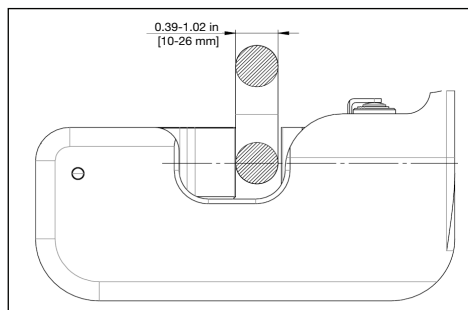
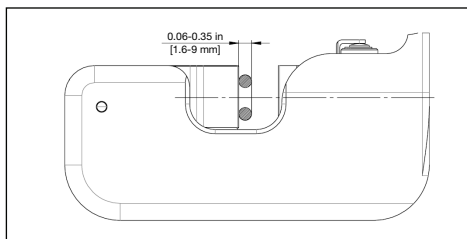

Figure 11, Position for 0.39 - 1.02 in [10 - 26 mm] diameter link wire
Figure 12, Position for 0.06-0.35 in [1.6 - 9 mm] diameter link wire
The cut of a chain link must be done in two shots for link wire dia. 0.39 - 1.02 in [10 - 26 mm]. The wire must be positioned in the center of the blade as shown in picture below. See Figure 11.
The cut of the chain link must be done in a single shot for link wire dia. 0.06-0.35 in [1.6 - 9 mm]. The link must be positioned in the center of the blade as shown in picture below. See Figure 12.
- NOTICE** Some chains contain large links which will extend above the tops of the blades when the chain is positioned in the cutting head. For details refer to Figure 11 and Figure 12.